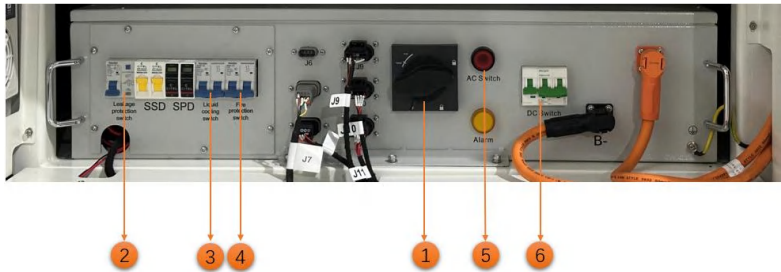

Fig 9-7 Battery cabinet power-on sequence
Manually disconnect the switch on the high-voltage box (Fig9-7) in the battery cabinet, first turn the DC circuit breaker switch (1) on the high-voltage box to the OFF state, then disconnect the DC power switch (6) and the AC power button switch (5), and finally turn off the fire switch (4) in turn Liquid-cooled switch (3) and leakage protection switch (2) are sufficient.
- After the emergency stop buttons are pressed, manually disconnect the molded case circuit breaker (Fig9-7: (1)) on the high-voltage box in the battery cabinet, and manually disconnect the electrical cabinet circuit breaker QF1 and QF3 (Fig9-9);